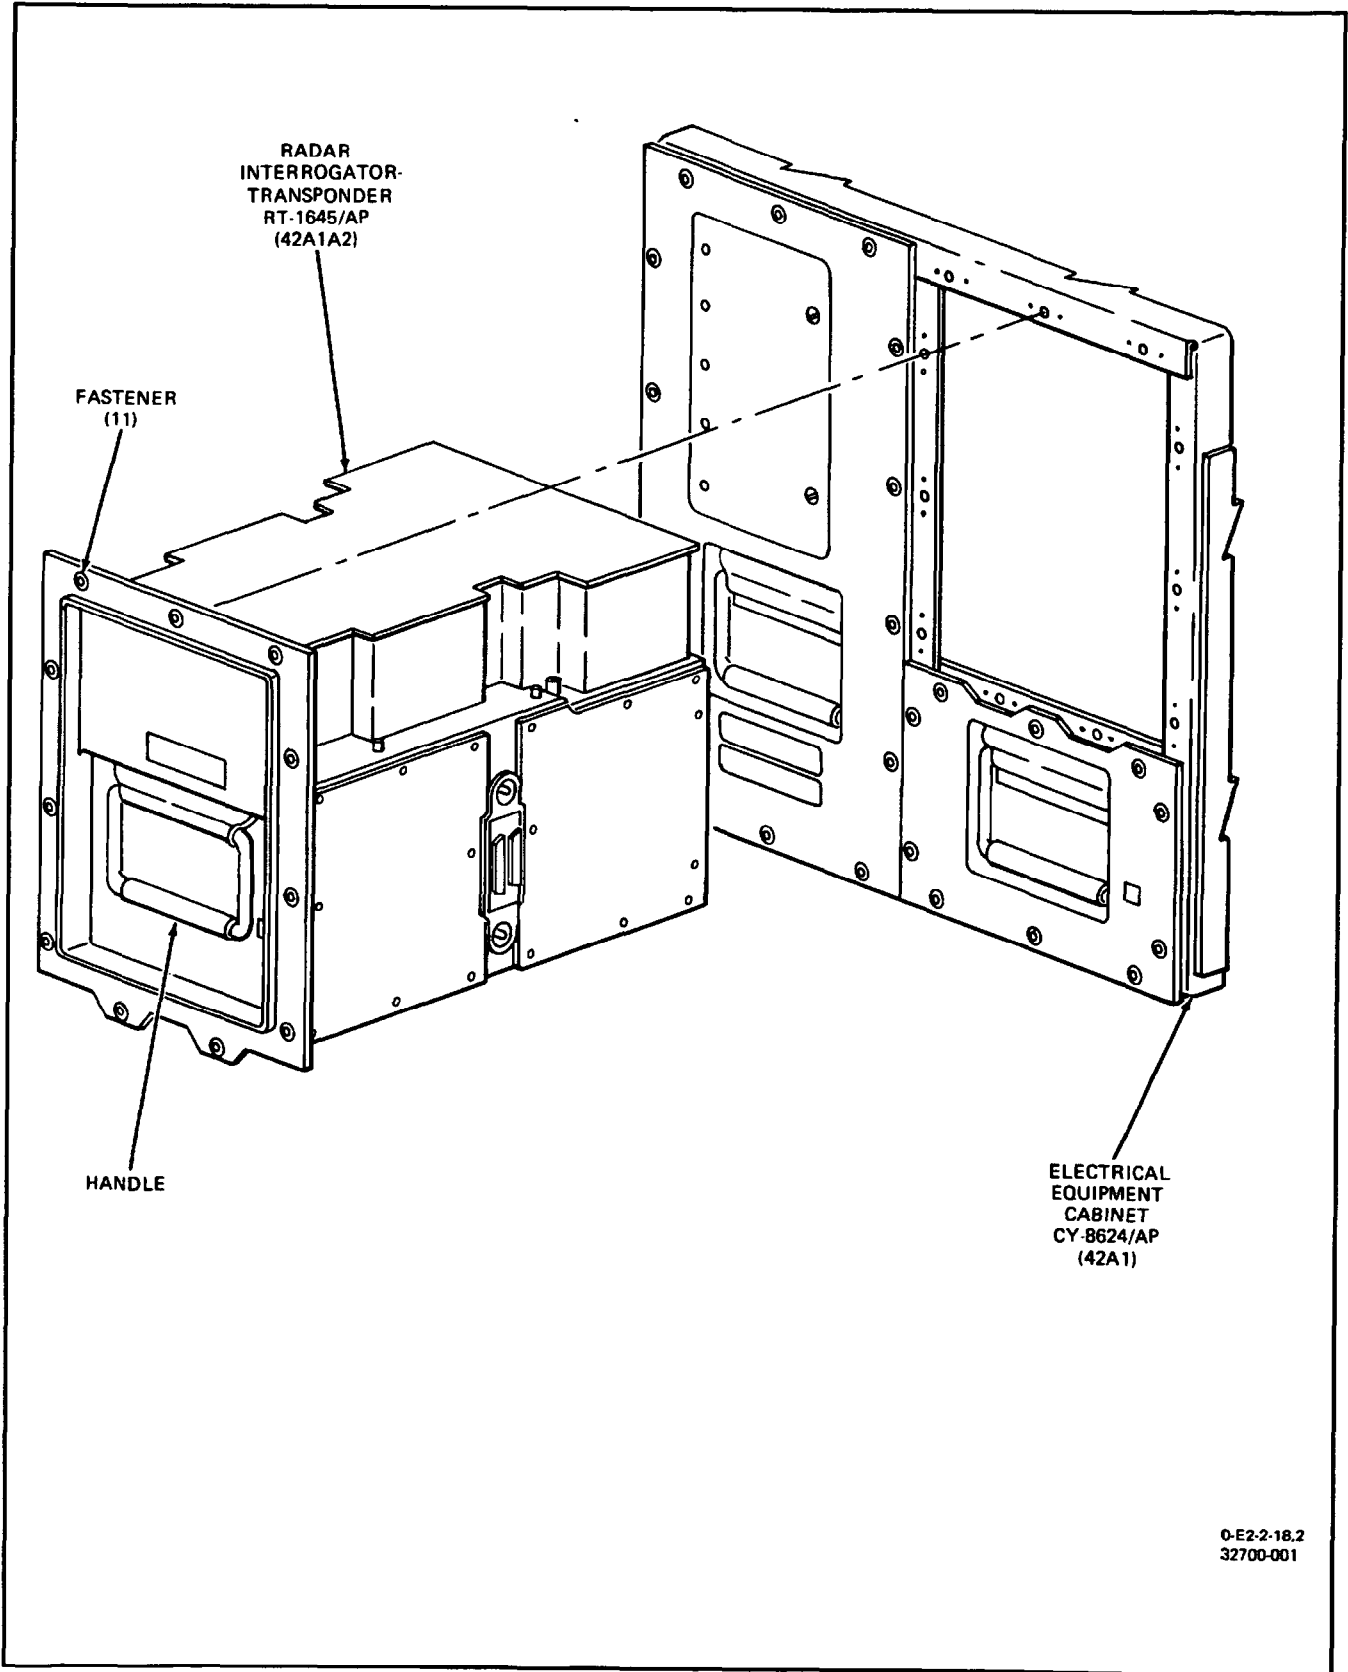

Figure 1. Removal and Installation of Interrogator-Transponder RT-1645/AP
5. **REMOVAL.** (Figure 1.)
6. **INSTALLATION.** (Figure 1.)